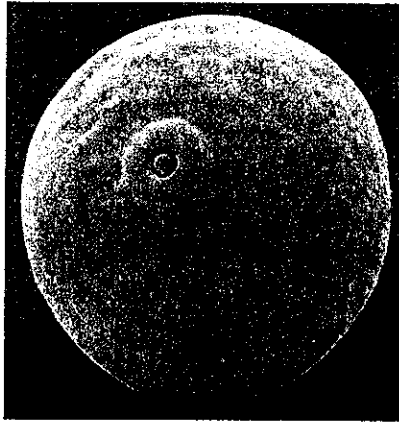

Figure 6.3 A corn pollen grain (~90  $\mu\text{m}$ ).
3. Pollen grain size is significant (see Figure 6.3). If a pollen grain is too large, it may not disperse well; however, if it is too small, there will be insufficient resources to produce a pollen tube long enough to reach the ovules. Corn pollen averages 120  $\mu\text{m}$  in diameter, which is much larger than either horse chestnut or oak pollen. Unlike either of these tree pollens, corn has to support the growth of a pollen tube up to 15 cm long.